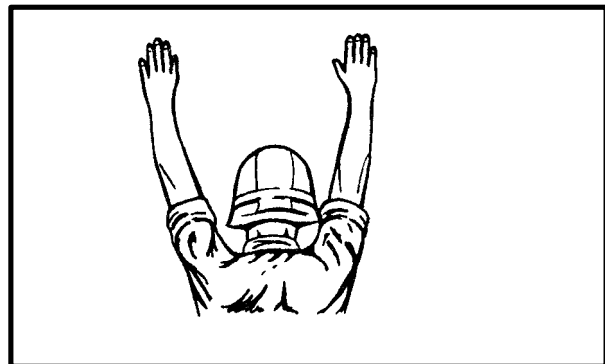

Figure 5-5. Assume Guidance
(1) The signalman identifies himself and the load for the pilot by holding up both arms, palms forward, as in Figure 5-5. As the pilot continues his approach, the signalman should move to one side or the other so the pilot can easily see his hand-and-arm signals.